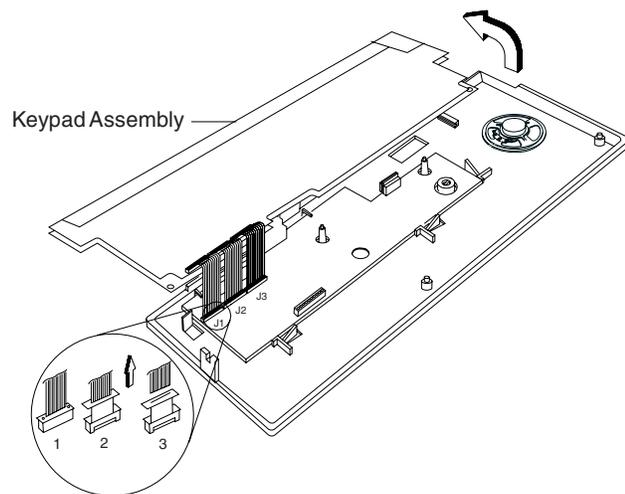

Figure 4-5. Removing the Keypad Assembly
- 3 Lift the keypad assembly and turn it over as shown in Figure 4-5 on page 4-12.